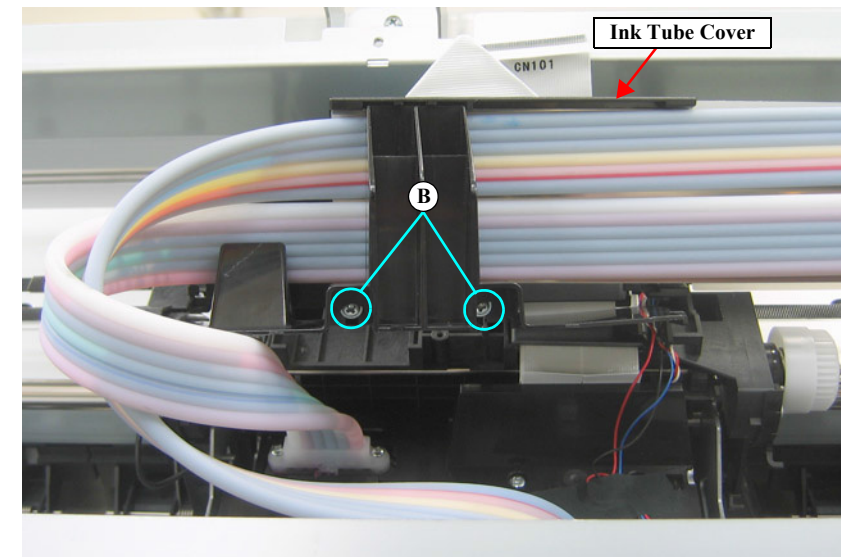

Figure 4-160. Removing the Ink Tube Cover
17. Remove the two screws that secure the Ink Tube Cover, and remove the Ink Tube Cover. *See Figure 4-160.*